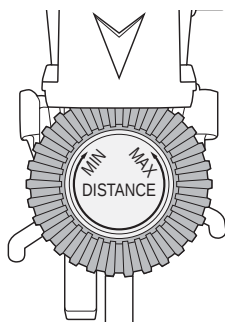

Fig. 5
- ◆ Press the locking lever ❷ down and turn the rotary control ❶ in the MAX direction to increase the width of the water jet (see Fig. 5). When you turn the rotary control ❶ completely in the MAX direction, the appliance can spray water up to a distance of 11 metres when operating at 4 bar.
- ◆ Press the locking lever ❷ down and turn the rotary control ❶ towards MIN to reduce the width of the water jet (see Fig. 5).